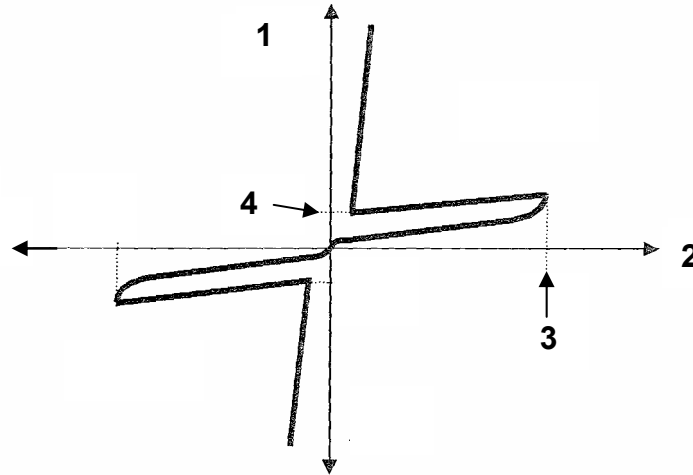

FIGURE 6.1: CHARACTERISTIC CURVE OF A DIAC
6.1 The diagram in FIGURE 6.1 shows the characteristic curve of a DIAC.
- 6.1.3 With the aid of the characteristic curve shown in FIGURE 6.1, describe how a DIAC is switched on. (4)